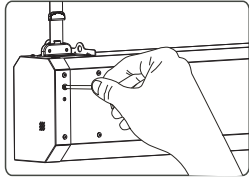

Figure 28
a.Upper limitation adjusting. Take off the knob from the hole and use the provided allen key to adjust (figure28). A clockwise adjustment will retract the screen (The distance between the screen and installation position will decrease) and a counter-clockwise adjustment will extend the screen (The distance between the screen and installation position will increase).